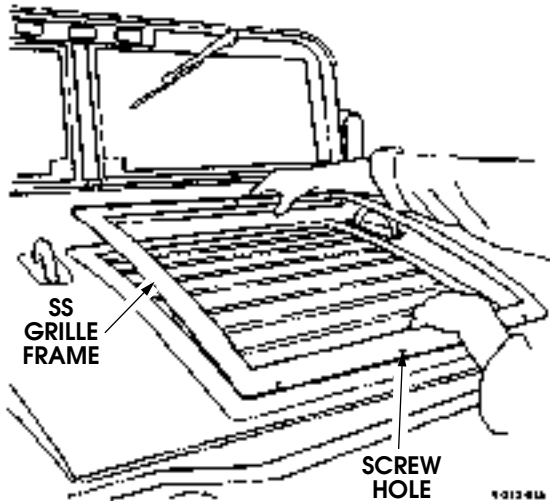

Figure 13-85: SS Upper Grille Frame R&I
1. Remove the six screws, washers and nuts securing the SS grille frame to the original grille frame and remove the SS grille frame (See Figure 13-85).